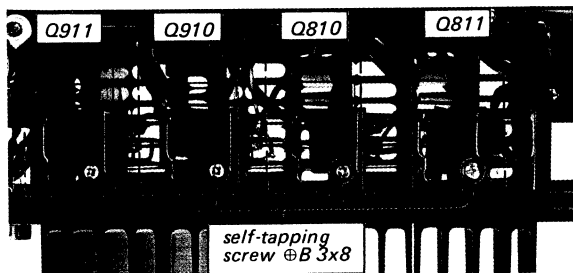

Fig. 2-14 Top heat sink bracket removal
2. Remove the four self-tapping screws ($\text{Ø} B 3 \times 8$) securing top heat sink bracket as shown in Fig. 2-14.